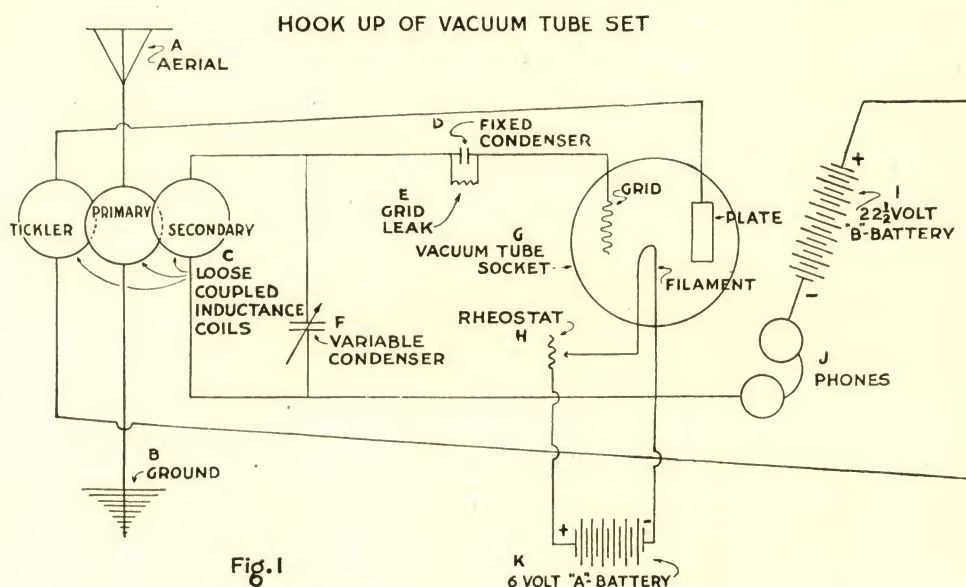

Fig. 1
Essentials of the vacuum tube set, in addition to the tube itself are three loosely coupled inductance coils (C, Fig. 1), a fixed condenser (D, Fig. 1), a grid leak (E, Fig. 1), a variable condenser (F, Fig. 1), a rheostat (H, Fig. 1), two batteries, one of 6 volts and one of  $22\frac{1}{2}$  volts and a pair of telephone receivers coupled in a head set. These parts with the exception of the telephone receivers, the vacuum tube and the batteries may be easily made at home.
The fixed condenser (D, Fig. 1) may be made by laying sheets of tinfoil between sheets of waxed paper. Smooth tinfoil, free from holes or tears should be used. Mica or paper condenser can be bought for a small sum. Two pieces one inch in length and one-half inch in width should be cut from this. Then from thoroughly waxed paper, which can be purchased or made by soaking good quality writing paper in melted paraffin, cut three pieces five inches in length and three inches wide. On one of these pieces place a piece of the foil, cover this with a second strip of paper, place the other strip of foil over this and cover with the last strip of paper. Care should be taken that the edges of the tinfoil are well within the margins of paper and are accurately in line or centered. Next cut two pieces of flexible stranded light wire five or six inches long, spread apart the strands at one end of each piece, and place one of these frayed and
The grid leak (E, Fig. 1 and Fig. 6) should be shunted across this fixed condenser. This consists of a piece of cardboard placed between two binding posts or terminals with several soft lead-pencil lines drawn across it from post to post. Pencil marks should be drawn about the holes where the posts are to be inserted in order to be sure that a good connection is made. India drawing ink (made of carbon) may be used instead of pencil marks. The resistance of home-made grid leaks often varies somewhat so that noises are caused in the telephones. A number of grid leaks may be constructed and the most satisfactory one selected. Manufactured grid leaks of satisfactory performance may be purchased at reasonable prices.
The variable condenser (F, Fig. 1) consists of a series of semi-circular plates of aluminum, copper or zinc, so arranged as to swing past fixed discs. The details of construction are shown in Figs. 7 to 10. The air spaces between the plates correspond to the waxed paper between the strips of foil on the fixed condenser.
On the threaded end of the nut, on top of the disk place first a washer, then a hexagonal nut and then a contact arm of brass (C, Figs. 11 and 12). The contact arm should be shaped so as to enclose the spiral coil at its end. Above the contact arm on the bolt should be placed a second hexagonal nut and a knob shown at A, Figs. 11 and 12. A bolt (G, Fig. 11) will serve as a binding post to fasten one end of the spiral coil. It should be placed near the outer rim of the disk with the head beneath serving to secure a wire to 6 volt battery "A" shown at K in Fig. 1. On the threaded end of the bolt a washer should be placed with a hexagonal nut on top, the end of the coil being held between the washer and nut. A common wood screw may be used to secure the other end of the coil. Drive the screw into the edge of the disk as shown at I, Figs. 11 and 12 and as the head of the screw approaches the wood turn the end of the coil beneath the head and tighten it until it is firmly held. It is important that the contact arm make a good contact with the wire, otherwise noises may be caused in the telephone. Manufactured filament rheostats can be purchased at reasonable prices and can be expected to give better service than home-made rheostats.
The manner of hooking up the various parts of the vacuum tube set described is plainly shown in Fig. 1, Page 68. In making the connections the phone receivers (J) and the "B" battery (I) should be placed in series, the positive pole of the battery being connected with the tickler of the loose coupled inductance coil—if the single inductance is used the positive pole of the battery should be connected with the
The positive pole of the "A" battery should be connected with the rheostat (H, Fig. 1) and the negative pole with the filament of the vacuum tube. The ends of the wire wound on the primary coil of the inductance should be connected with the aerial and the ground wire. The other end of the tickler wire from the one connected with the "B" battery should be connected with the plate of the vacuum tube. The secondary coil of the inductance should be connected with the telephone receivers and with a wire running through the fixed condenser and grid leak to the grid of the vacuum tube. A wire connected with the two wires from the secondary inductance coil runs through the variable condenser (F, Fig. 1).